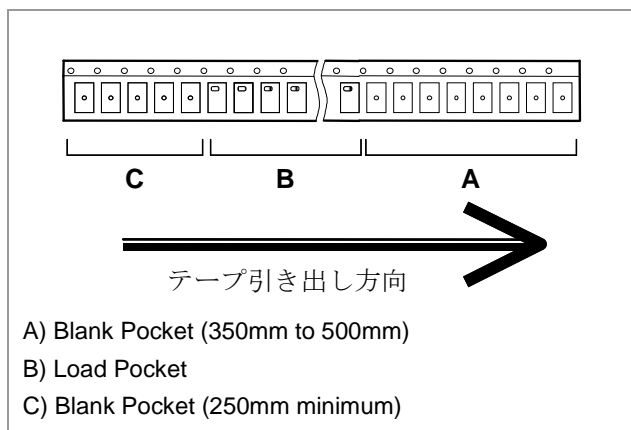

Fig.8 Taping
- Package shall consist of leader, blank pocket and loaded pocket as follows. "Fig.8"